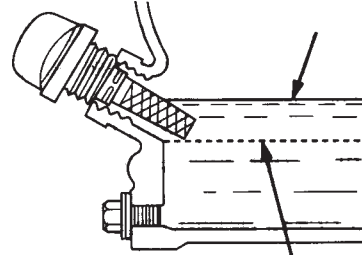

Figure 6. Engine Oil Dipstick (Oil Level)
4. If the oil level is low (Figure 6), fill to the edge of the oil filler hole with the recommended oil type (Table 5). Maximum oil capacity is 0.63 quarts (0.60 liters).